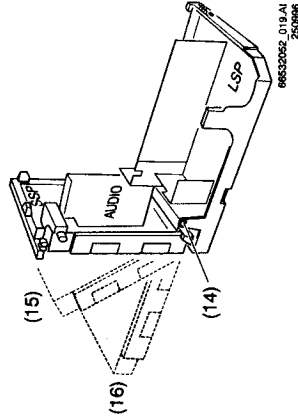
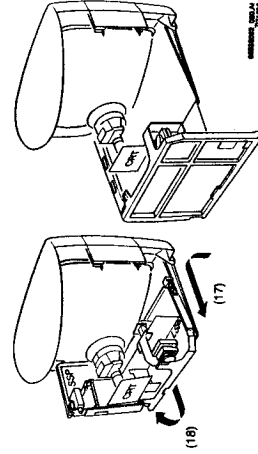

Figure 4.7
Figure 4.8
**SSP copper and component side, module servicing (Figure 4.7)**
1. Release the click construction (14) between the SSP and LSP.
2. Lift the SSP a little and turn it to an angle of 135° (15) or 180° (16) from the LSP. This provides better access to the component side of the SSP and also allows for the removal of modules.
**Service position with table/workbench (Fig. 4.8)**
2. Lift the chassis from the bottom plate and pull it backwards (17).
3. Turn the entire chassis around the CRT-panel (18). The chassis rests on the SSP with the copper side of the LSP backwards.
2. Release the click construction (14 - Fig. 4.7) between the SSP and LSP. Lift the SSP a little and turn it to an angle of 180° (16 - see Fig. 4.7) from the LSP. The mains panel can now be accessed when reaching over the SSP/LSP.